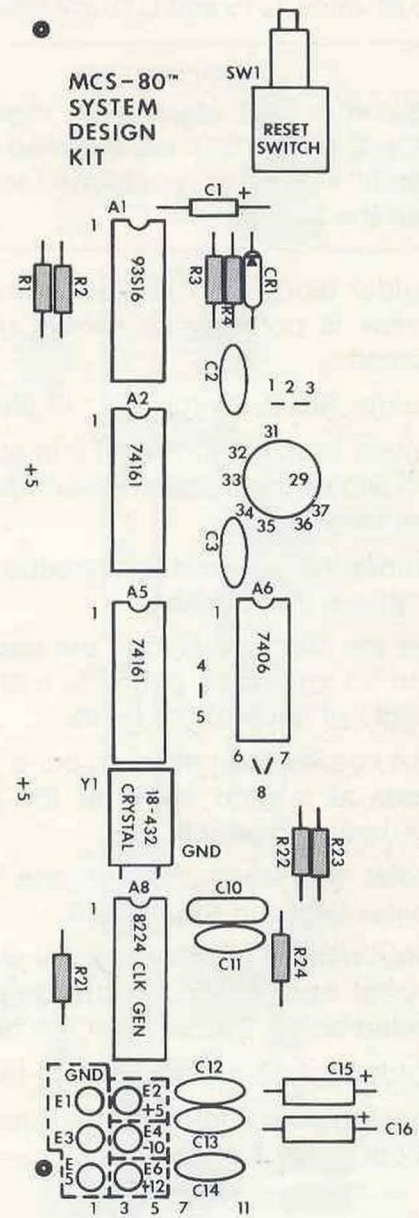

Figure 2-3. Construction Figure #1.
- Referring to Table 2-4, solder resistors R1-R4 and R21-R24 in place. Figure 2-3 shows this area of the board.